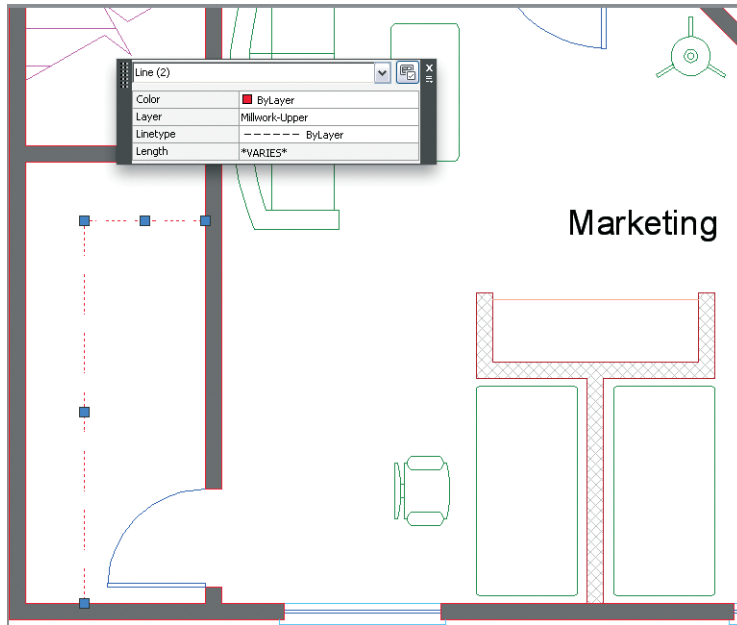

FIGURE 6.29 Changing layer assignment and setting linetype to ByLayer
- Zoom into the closet in the Marketing space, and select both shelf lines. Change Layer to Millwork-Upper and Linetype to ByLayer in the Quick Properties window (see Figure 6.29). The two lines appear red with Hidden linetype. Close the Layer Properties Manager.